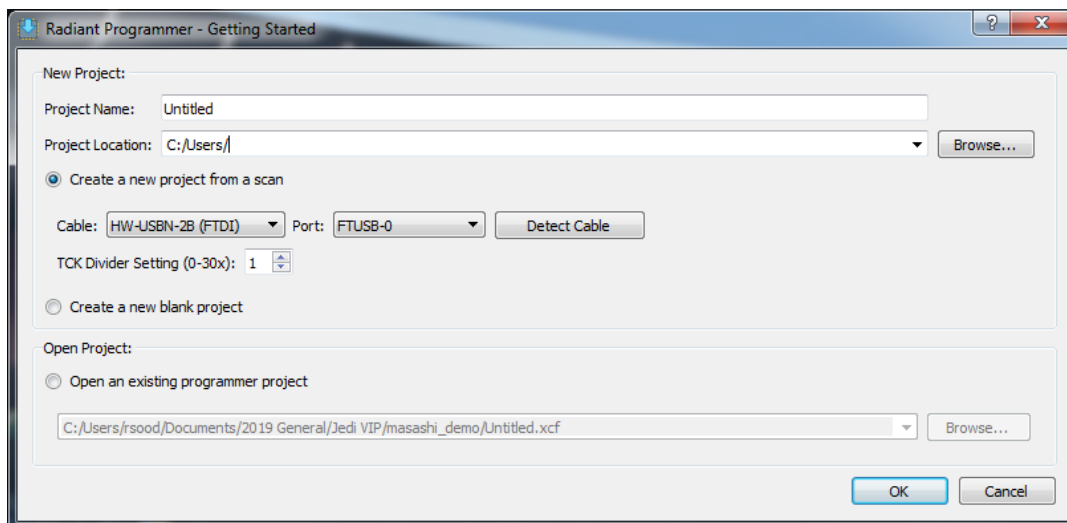

Figure 3.2. Starting Programmer
1. Power on the board by placing it on the EVDK board stack and start a programming project by launching the Lattice Radiant tool and initiating a board scan, as shown in Figure 3.2.